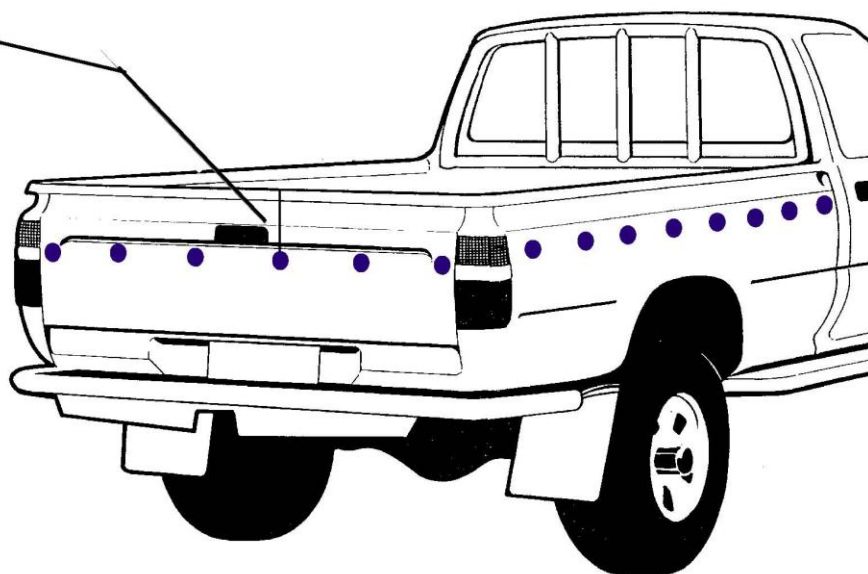

Figure 3
6. To fit round body hooks measure 115mm down from the top edge and line up each hook individually to each bunji loop starting with the two either side of the tailgate handle and working your way around to the front, drill and rivet buttons alternating from side to side. **See Figure 3**